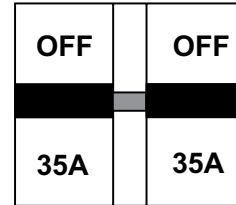

Figure 25. Main Circuit Breaker (OFF)
1. Place **main** circuit breaker (Figure 25) in the **OFF** position.